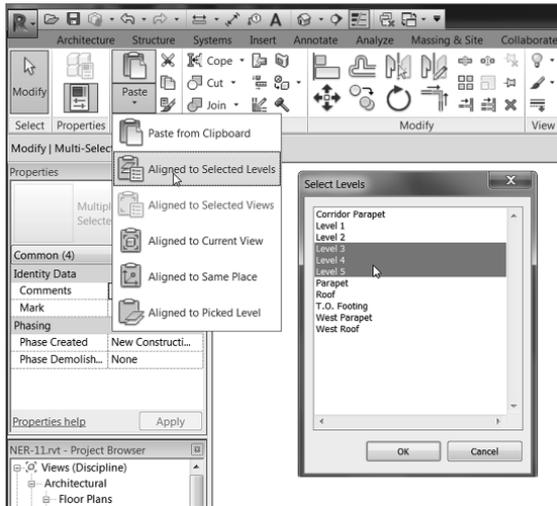

FIGURE 10.30: Paste > Aligned To Selected Levels
3. Click Paste > Aligned To Selected Levels, as shown in Figure 10.30.